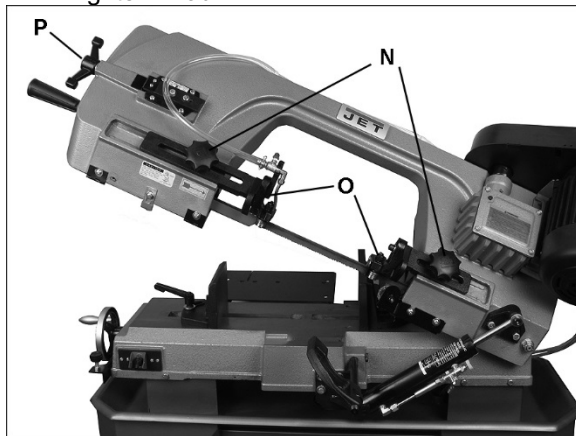
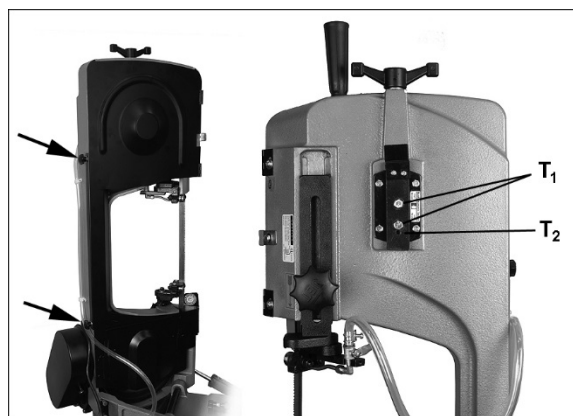

Figure 8-7: Blade Guide Adjustment
Figure 8-10: Blade Tracking Adjustment
- 2) Loosen the knob (N, Figure 8-7) and slide the blade guide assembly (O) as close as possible without interference to the material being cut. Tighten knob.
- 3) Open the rear guard by removing the two (2) knobs (see Figure 8-10).
- 4) Remove the red guard from the upper blade guide by removing two (2) screws.
- 5) Release tension on the blade by turning the tension handle (P, Figure 8-7) counter-clockwise. Remove blade. (Use gloves when handling sharp blades).
- 2) Open the rear guard by removing the two (2) knobs (see Figure 8-10). Observe the position of the blade on the wheel. If blade is not adjacent to wheel flange, first adjust the blade tracking according to sect. 8.9 Blade Tracking.
- 3) If blade is properly adjacent to wheel flange, slide blade guide assemblies as far apart as possible, and tighten in position with knobs (N, Figure 8-7).
- 4) Push on the blade to test tension. Finger pressure should cause approximately 0.004" deflection. Turn the blade tension handle (P, Figure 8-7) until proper tension is achieved. For more precise measurement use a blade tension gauge (not provided).
- 6) If blade is not tracking properly, loosen bolts ( $T_1$ , Figure 8-10) with 12mm wrench.